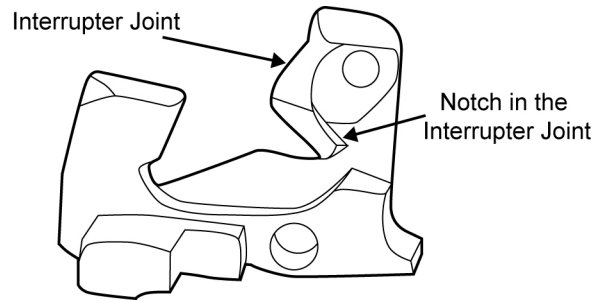

Figure 43. The Notch in the Interrupter Joint.
- k. If present, push the long leg of the interrupter spring to the rear until it seats in the notch in the interrupter joint. Refer to Figure 43.